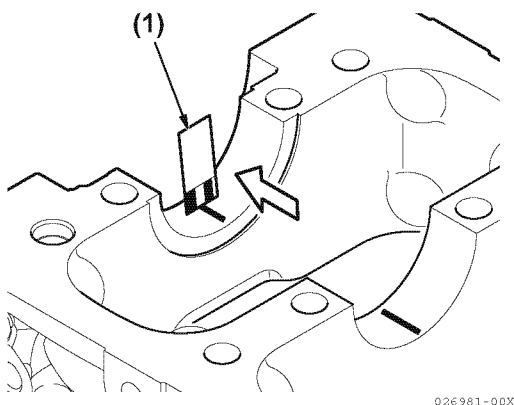

Figure 6-57
- Compare the width of the flattened PLASTIGAGE (**Figure 6-57, (1)**) to the graduation marks on the package. The mark that most closely matches the width of the flattened PLASTIGAGE will indicate the bearing oil clearance. Record the measurement. See *Crankshaft* on page 6-8 for clearance specifications.